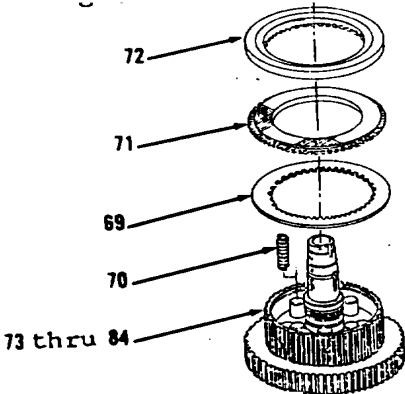

Figure 14-19.
60. Remove plate (69), six springs (70), discs (71) and plates (72, Figure 14-19).
61. Turn over items 73 thru 84 as an assembly and place on wood blocks.